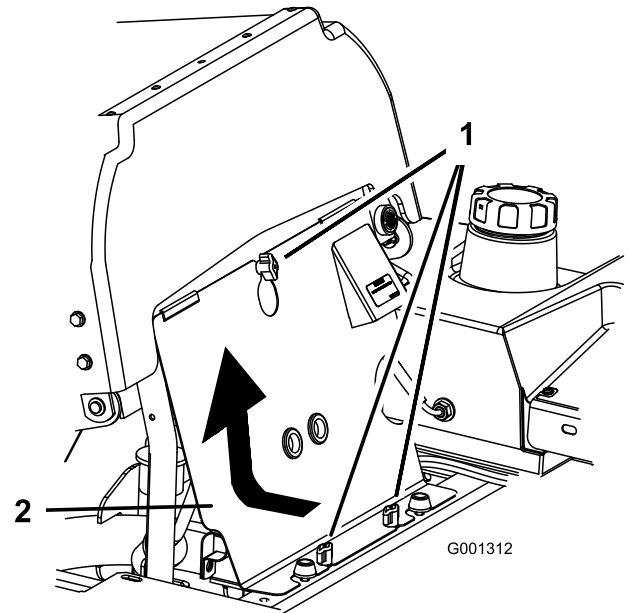

Figure 71
3. Loosen the front engine panel knobs and remove the panel (Figure 71).